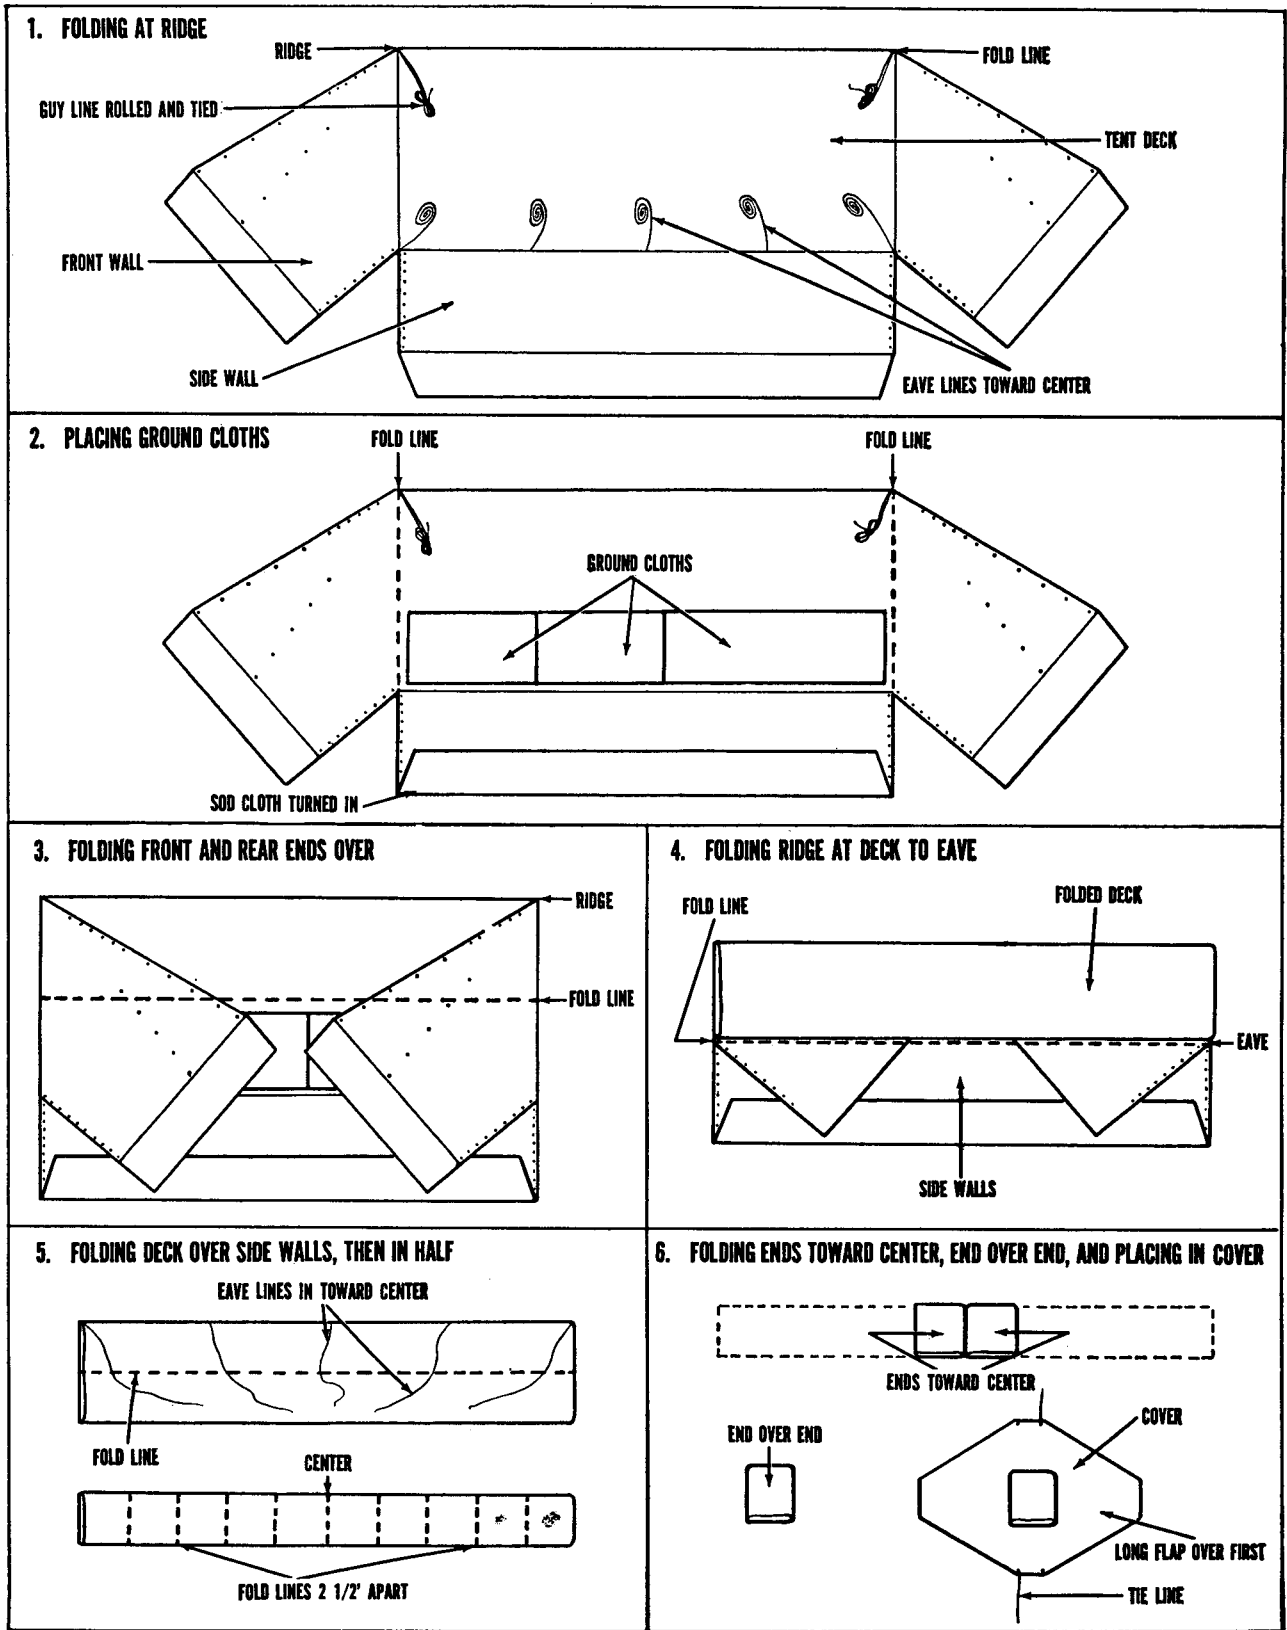

Figure 75. Steps in folding tent, maintenance, shelter.
- (1) *Folding tent* (fig. 75).
- (a) Fold tent at ridge, with sides and two parts of front and rear ends together. Roll guy lines up and tie. Coil eave lines toward center (1).
- (b) Place ground cloths on tent just above eave, staggering them to use space to the best advantage. Turn sod cloth in toward eave (2).
- (c) Fold front and rear ends over toward center (3).
- (d) Fold ridge at deck to eave (4).
- (e) Fold deck over sidewalls, and then in half. Coil eave lines in toward center (5).
- (f) Fold ends toward center, end over end, and place in cover (6). Close cover, folding long flap first, then